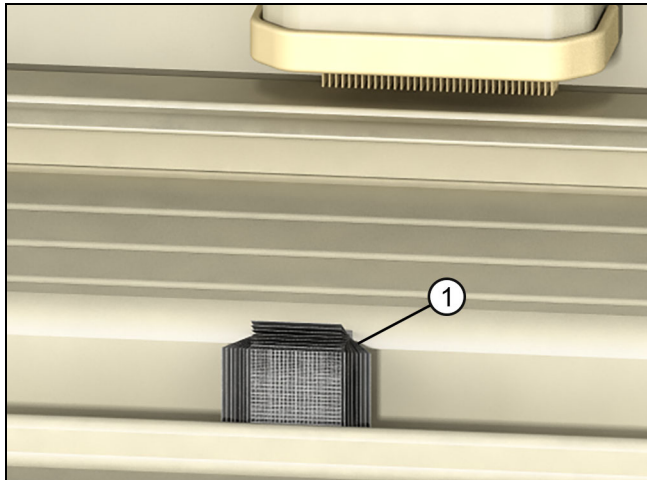

Figure 1
1. Place a dust block sitting vertical at the center of the sill tight to the bottom. See Figure 1.